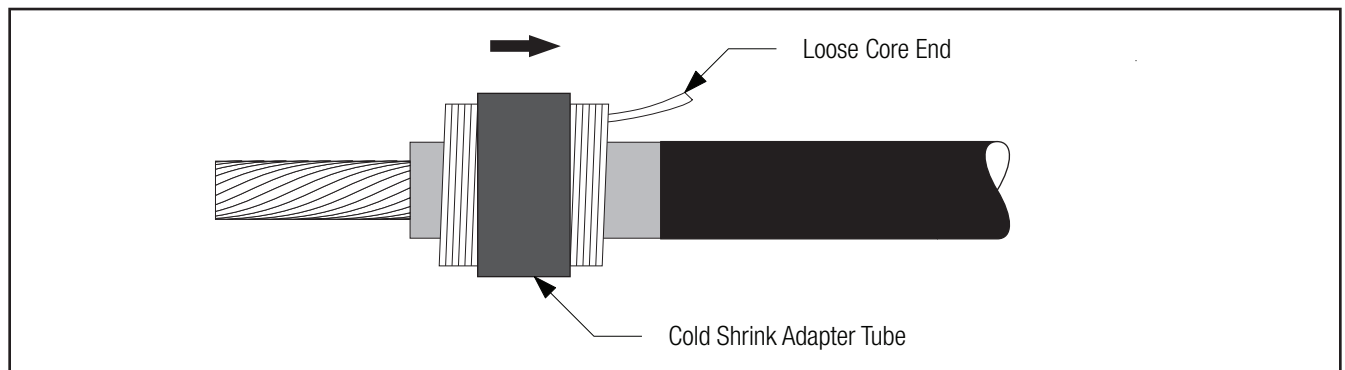

Figure 15
4.4 For 350 and 500 kcmil copper connectors, or connectors with an O.D. between 0.80–1.04" (20,3–26,4 mm): Slide the cold shrink adapter tube onto the insulation with the loose core ribbon end going on first, away from the cable end (Figure 15).